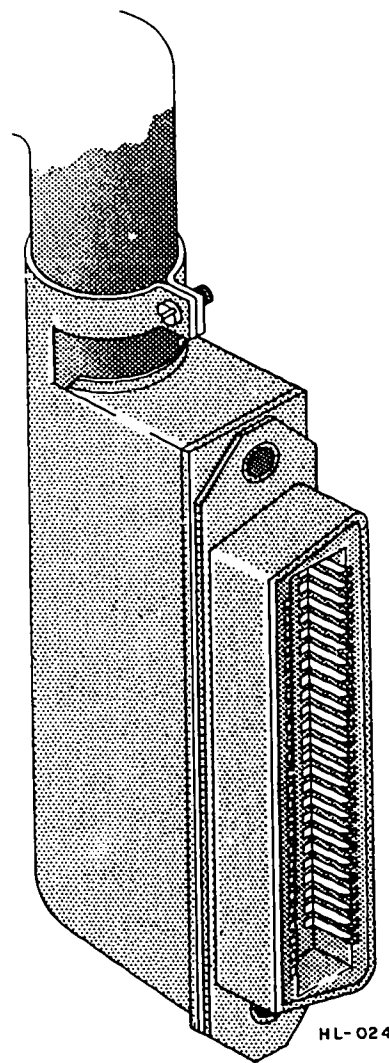
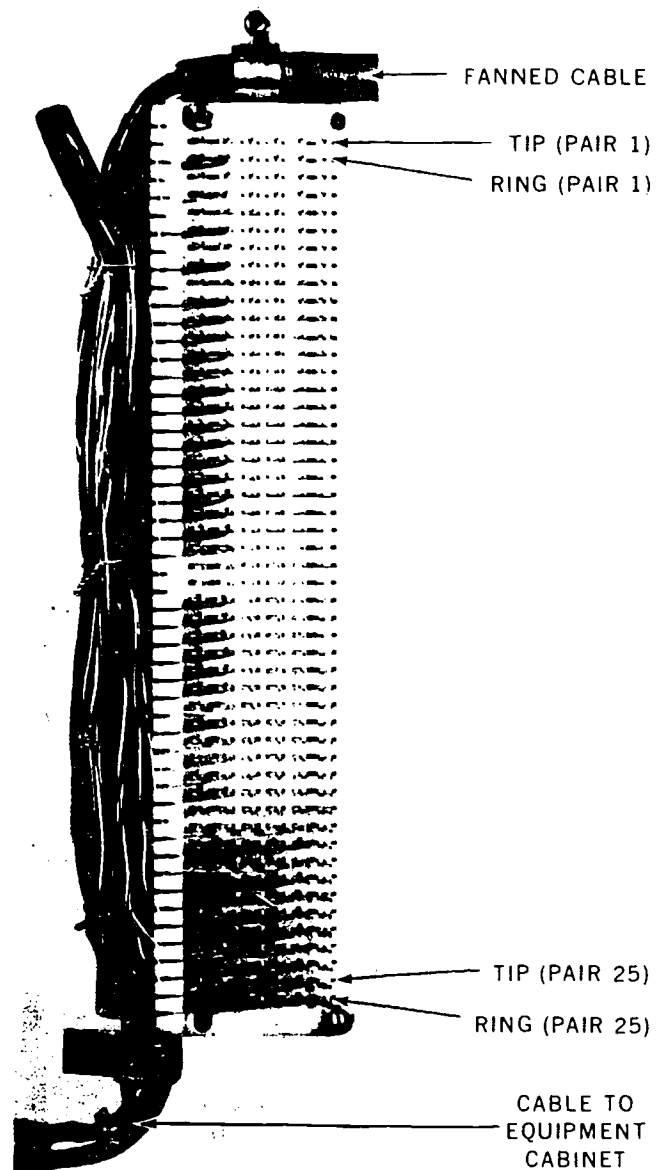
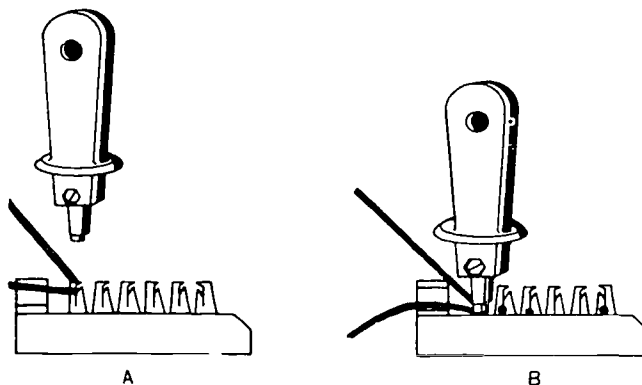

Figure 3-9. Key system cable connector.
Figure 3-10. Fanned cable at type 66 bridging terminal.
Figure 3-12. Terminating a wire on a 66A terminal.
Figure 3-9 shows the receptacle with which you are more concerned. It has a unit with 25 contacts on each side of the depression. This unit and two more just like it are attached to the connector cable. The three units were illustrated with the Call Commander and the mating elements in figure 1-15. You will see many ways of providing a quick-disconnect. All types accomplish the same function, although their design, their contact arrangement and numbering, and their attachment may differ.
Figure 3-7 showed a second cable termination, which we briefly considered. Figure 3-10 illustrates another terminated cable. For the cables shown here, it is evident that before you can terminate the conductors, you must expose them and fan them out to the appropriate terminals.
A simple method for doing this is by placing two layers of plastic electrician's tape around the open cable end. Place the tape so that approximately half of its width is on the sheath and half the width is on the conductors. Wrap the tape tightly around the cable and form it as neatly as possible. The cable at the top of the 66 bridging terminal in figure 3-10 shows a tape wrap example.
3. Tell a terminal difference for the 30 and 66 type bridging terminals. Refer to figures 3-9 and 3-10.
Since there are many different types of terminating blocks, it is evident that you will use several forming arrangements. At the type 30 terminal unit, you place the running cable on the side where the board fanning strip is installed. The cable should also extend 2 inches below the type 30 terminal before you begin to fan the conductors. The running cable is to be butted in such a manner that the end of the sheath is below the strip and at a distance that permits room for skinning and terminating the first conductors. Figure 3-9 illustrates a sample fanning arrangement at the type 30 terminal. Accordingly, pair 1 has the shortest conductors and pair 25 has the longest conductors. Since it is more difficult to fan long conductors than short conductors, excess wire should be cut off, leaving only a sufficient length with which to work. Usually, a wire that extends 6 inches beyond the face of the extreme front edge of the fanning strip is sufficient for the skinning and terminating operation. However, wires that are not to be used must not be removed. They are spare wires. Be sure to keep the wires paired while completing the fanning operation, hence arrange them to conform with the D color code.
With a 66 type bridging terminal, illustrated in figure 3-10, you also first place the wire through the fanning strip before placing the wire in position at the terminal. The fanning strip is not as evident in the latter figure as in figure 3-9, but it is at the left of the unit and beside the fanned form. Note that pair 1 is terminated at the top and pair 25 is terminated at the bottom.
A much faster, easier method is shown in the terminating pattern used with a type 66 bridging terminal, as illustrated in figure 3-10. You place the wire in the small opening below the upper finger on one of the projections (clips) for the terminal. Of course, you first insert the wire through the fanning strip before placing the wire in this position. Figure 3-12,A, shows the wire in position in a terminal clip before it is forced within the lips of the clip. Figure 3-12,B, shows the tool after it has pressed the wire down, thus completing the termination. It is evident that you do not skin the wire for this
NOTE: The 714B tool (fig. 3-12) is designed with a reversible blade.
Terminate the running cable at the 66 type bridging terminal in the manner illustrated in figure 3-12. Place the first conductor (tip for pair 1), which is white-blue, in the terminal at the left first row. Then place the ring wire (blue-white) for pair 1 in the terminal at the left of the second row of terminals. In the same manner, the white-orange conductor for pair 2 is installed in the terminal to the left of the third row, and the orange-white wire is connected in the first terminal of the fourth row. Figure 3-10 also shows the position of terminated wires on a 66 type bridging terminal.